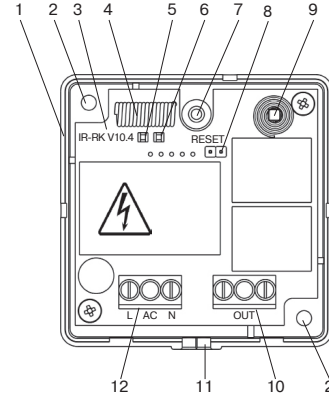

Figure 1 – The «IR-RK» with removed cover
The «IR-RK» design with removed cover is shown in Figure 1. The base (1) is provided with:
- hole (7) for cover fixation;
- two holes (2) for «IR-RK» fixation to installation surface;
- cutout (11) for mains cord wiring.